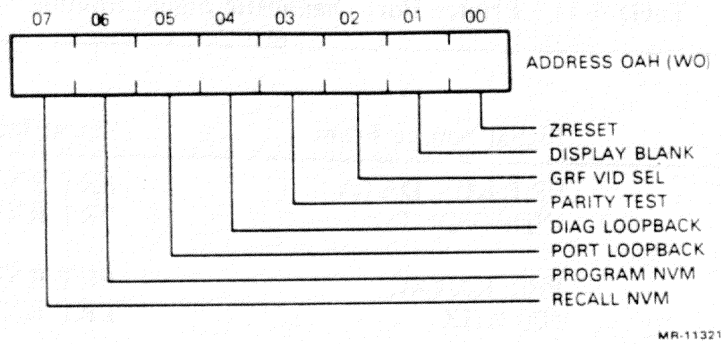

Figure 4-28 Diagnostic Write Register (8088) Format
4.4.9.1 Diagnostic Write Register: 8088 Processor – The diagnostic write register is an 8-bit write-only register that is used for diagnostic control purposes. This register also contains a bit to loopback the transmitted data of the ports through a loopback multiplexer into the received data input of the ports. This register is accessed by performing a write to address 0AH. The register bit format is shown in Figure 4-28 and the bits are described in Tables 4-10, 4-11, 4-12, 4-13, and 4-14.